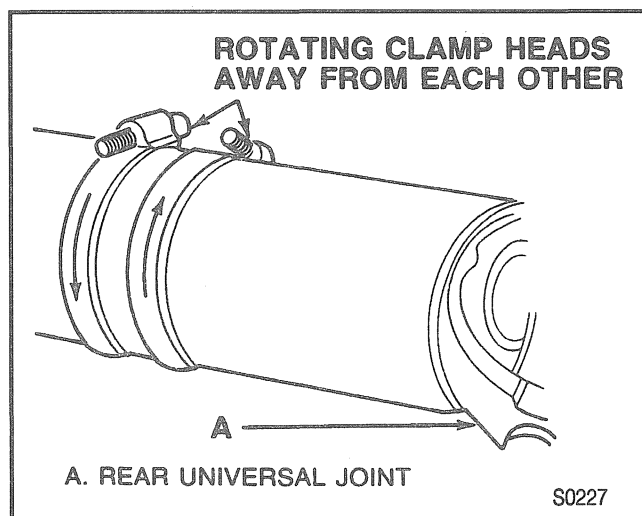

Figure 18—Rotating Hose Clamps
7. Position clamps at point of least imbalance. Rotate the clamp heads away from each other 45 degrees (one on each side of the position) (Figure 18). Run the vehicle and note if balance has improved. In some cases it may be necessary to use one clamp